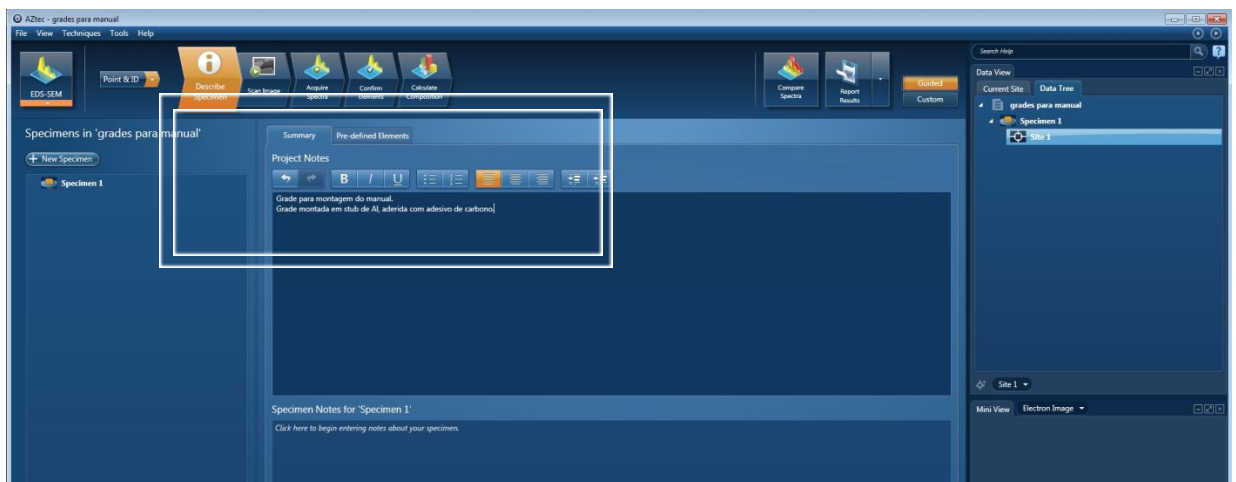

Figura 10. Campo *Project Notes*
- Figura 10. Campo *Project Notes*